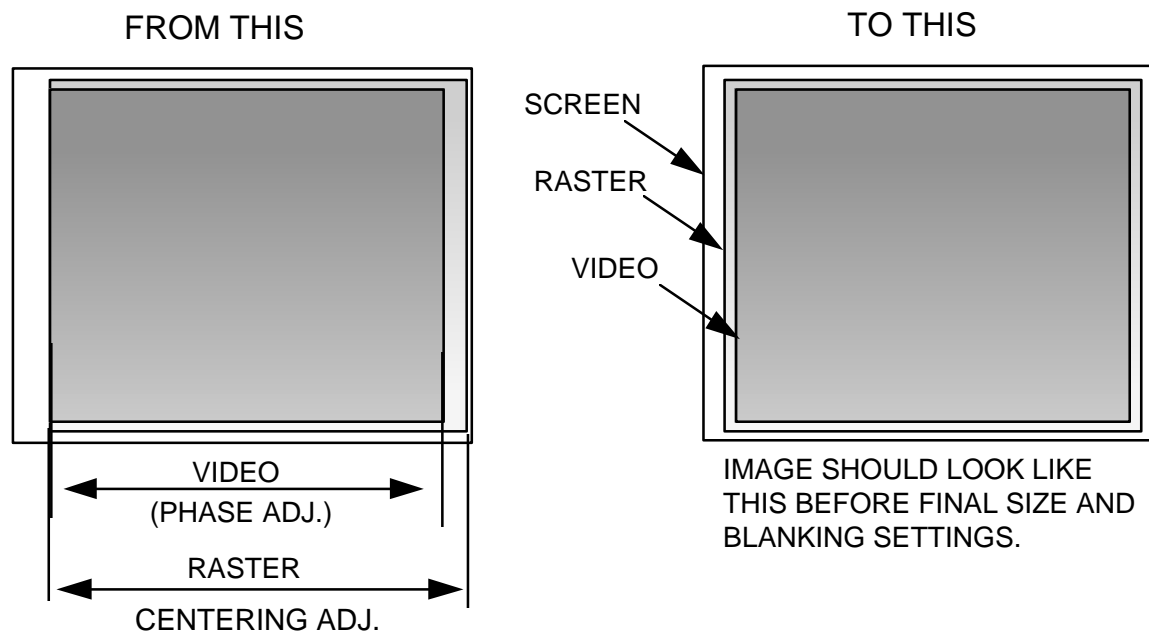

Figure 5-3. Phase, Size and Centering adjustments.
3. Use the arrow keys and increase the brightness level to allow viewing of the entire raster and video (*see Figure 5-3*). Press Escape when finished.
5. Verify that the video image and raster are smaller than the screen (*refer to Figure 5-3*). If not, access the Size adjustment from the Geometry menu and use the arrow keys to size the video image to be just smaller than the screen size. Press Escape or Enter when finished.
3. Use the arrow keys and adjust the horizontal and vertical phase so that the image does not fold over on either side or at the top and bottom. Center the video image on the raster as shown in Figure 5-3. **NOTE:** Overadjusting vertical phase may cause vertical retrace lines to appear in the video image.
5. Use the arrow keys and position the Green raster vertically and horizontally so that it is centered on the screen (*Refer to Figure 5-3*).
3. Use the arrow keys and adjust the size of the video image to the screen horizontally and vertically (*refer to Figure 5-3*).